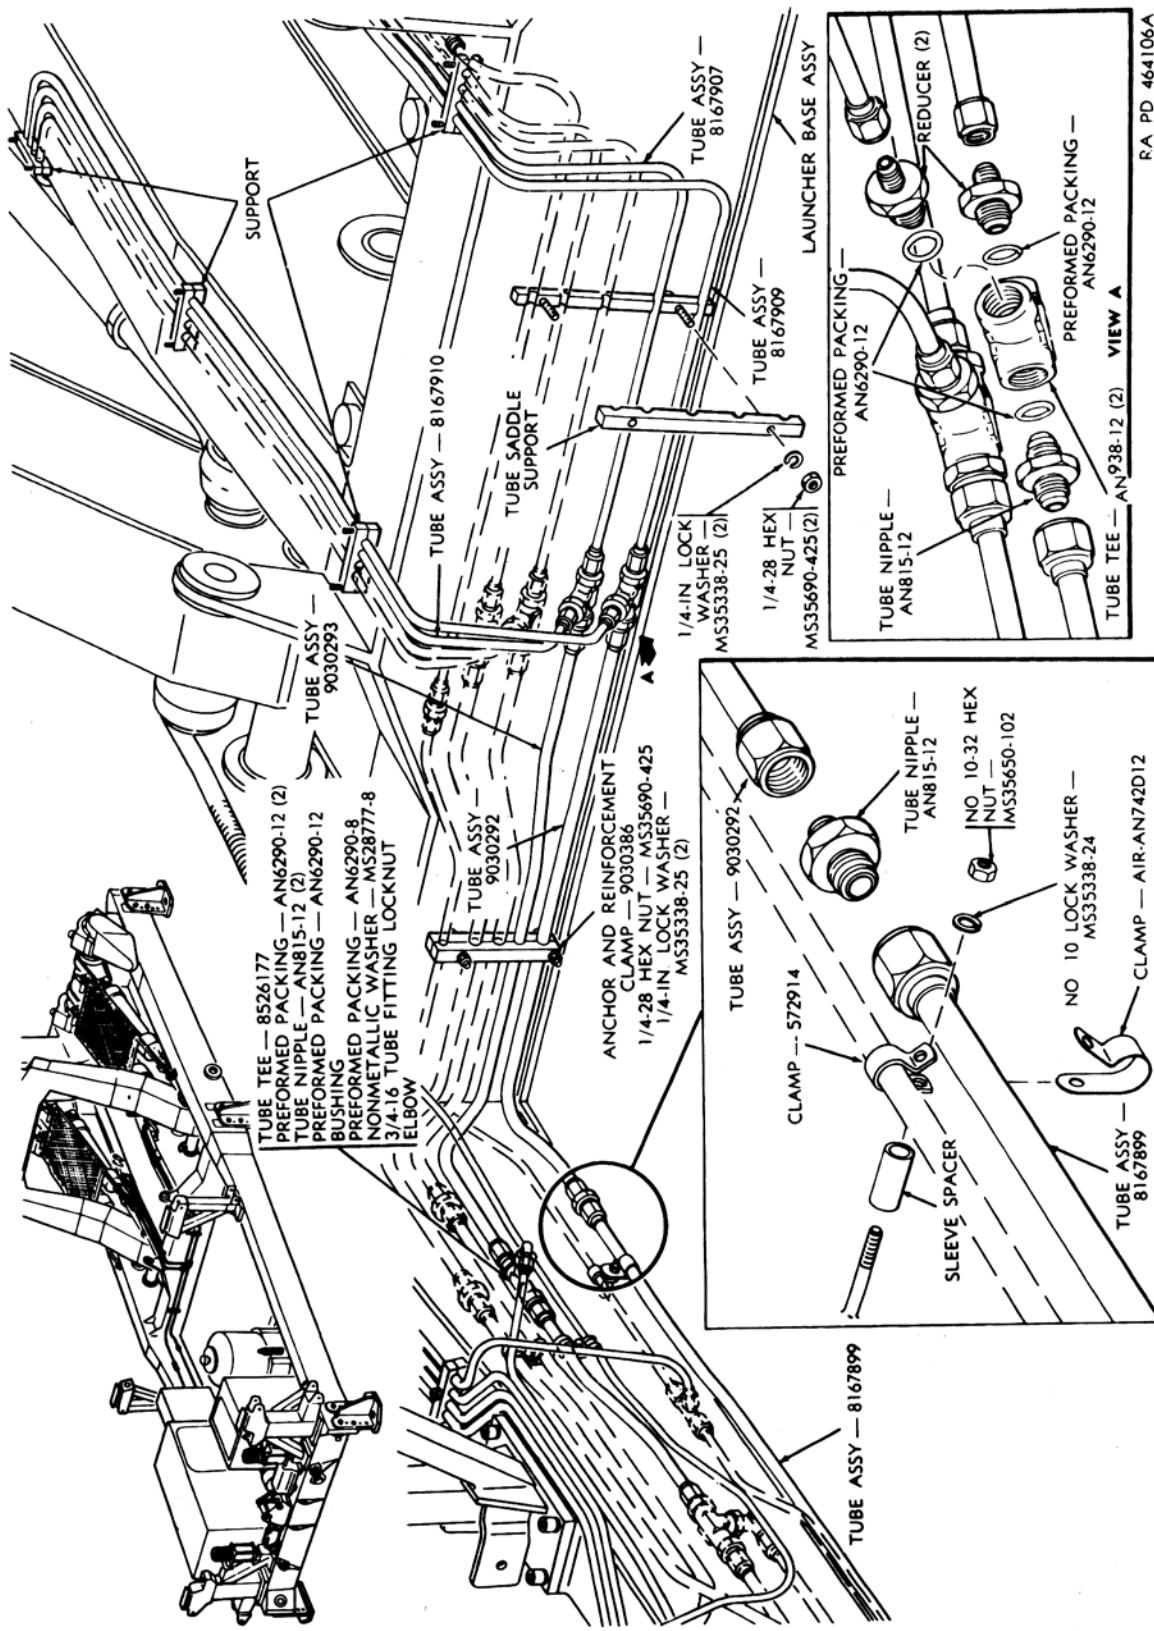

Figure 189. Erecting system hydraulic network—removal and installation—continued.
- (3) Depressurize the hydraulic oil reservoir by turning the handle of the plug cock to the VENT position and holding until all pressure is discharged.
- (4) Remove clamps and supports securing tube assemblies (fig. 189) to launcher base.
- (5) Remove tube assemblies, tube nipple, tube tees, and tube reducers to be replaced; cap all open lines.